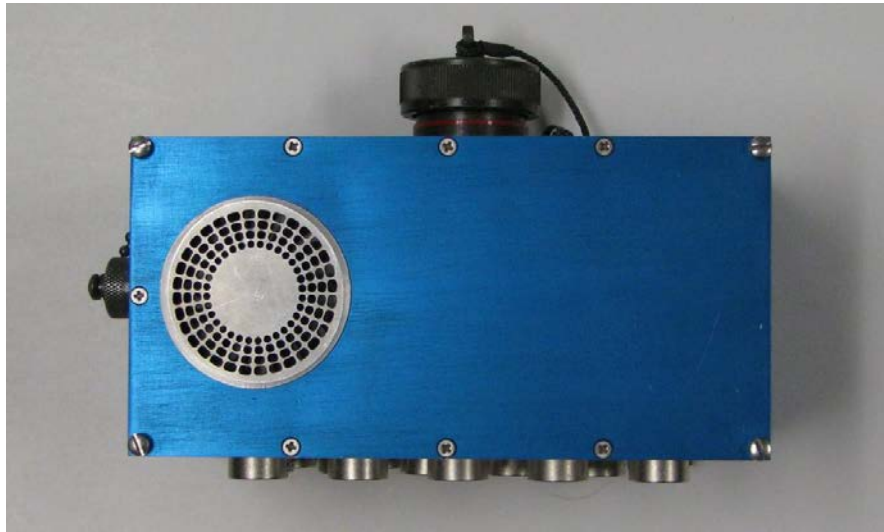

Figure A-5. Fan baffle.
e. Figure A-5 shows the top of the D4D enclosure. The fan baffle is visible on the top. The fan baffle must not be covered so that adequate air flow is provided to the unit.